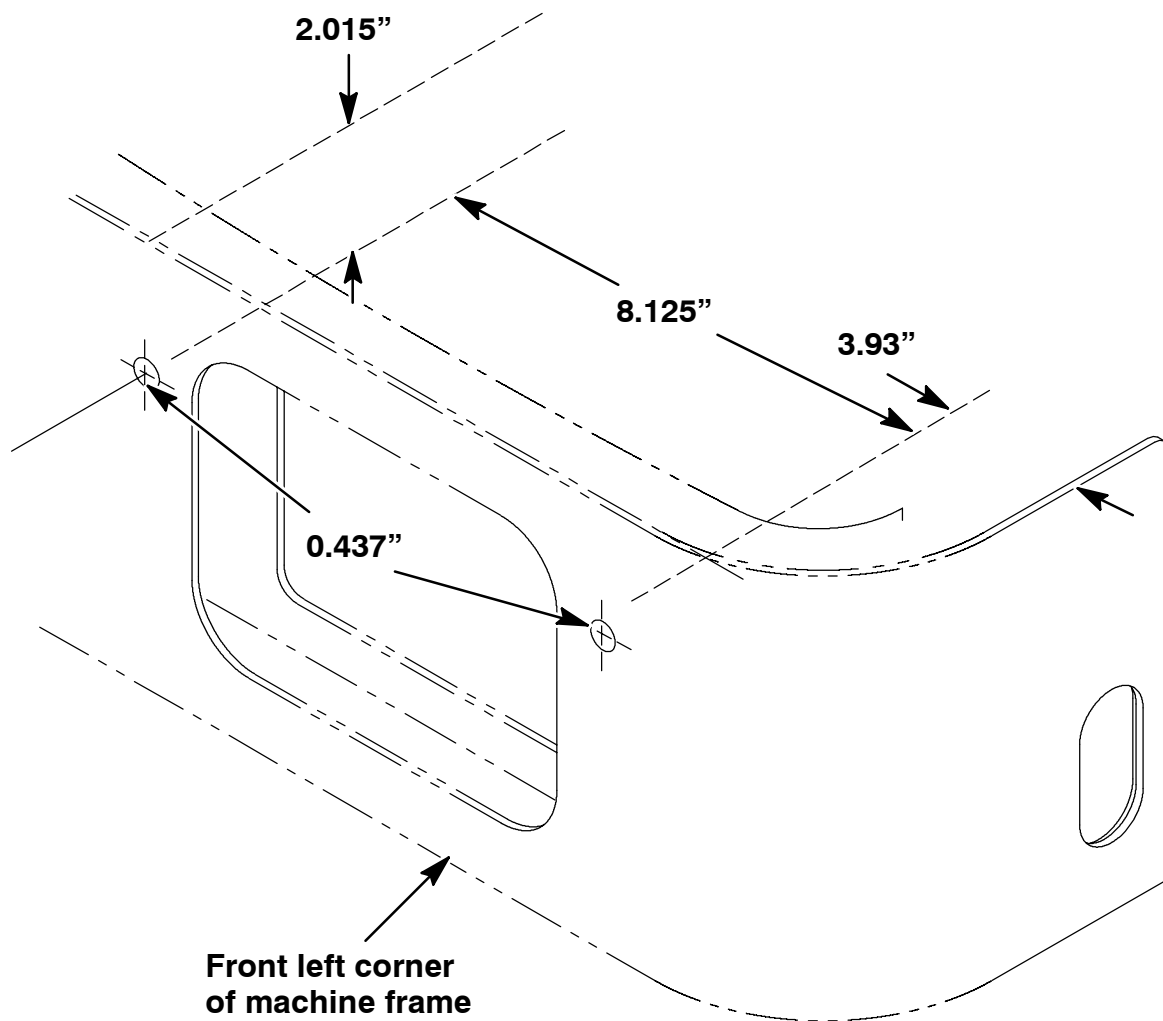

FIG. 3 - Power Wand Tray Mounting Hole Dimensions
8. Use the dimensions in Fig. 3 to mark and drill two 0.437" holes in the front bumper for tray installation. (Refer to FIG. 3 and 5)
9. Install the brush tray (16) on the left side of the front bumper using two screws (17), fender washers (19), and nuts (18). Hand tighten tight. (Refer to FIG. 3 and 5)
11. Install the larger part of the flex draw latch (13) onto the bracket (8) using two screws (15). Hand tighten tight. (Refer to FIG. 3 and 5)
12. Install the smaller part of the flex draw latch (13) onto the bracket (9) using one flat head screw (14). Hand tighten tight. (Refer to FIG. 3 and 5)
13. Install the second bracket (9) onto the first bracket (8) using two screws (10), washers (12), and nuts (11). Hand tighten tight. Mount assembled bracket to front of shroud using two screws (36), washers (12) and nuts (11). (Refer to FIG. 3 and 5)